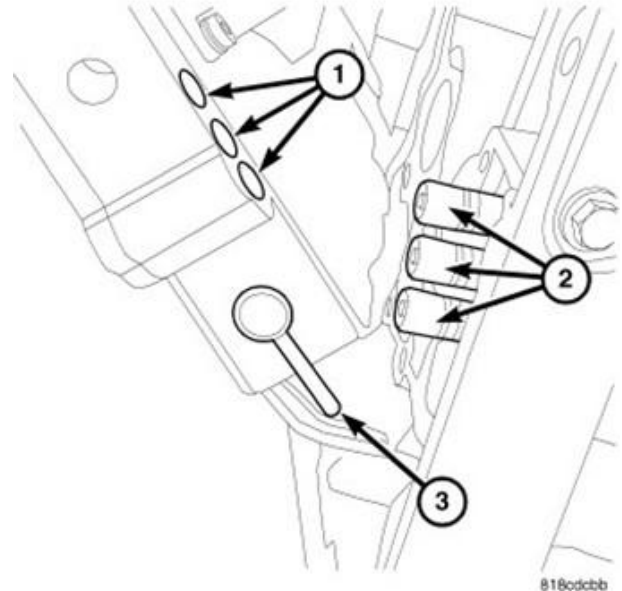

**Figure 15 – Valve Body**
**NOTE:** It may be necessary to use needle nose pliers or similar tool to push the oil transfer tubes (2) toward the transmission releasing them from the valve body (1) during valve body removal (Figure 15).
**NOTE:** For reassembly, pay attention to alignment of manual valve pin (3) in the range selector rooster comb (Figure 15).
25. Carefully remove the valve body (1) being careful to not damage the valve body gasket on the back side of the valve body (Figure 15).